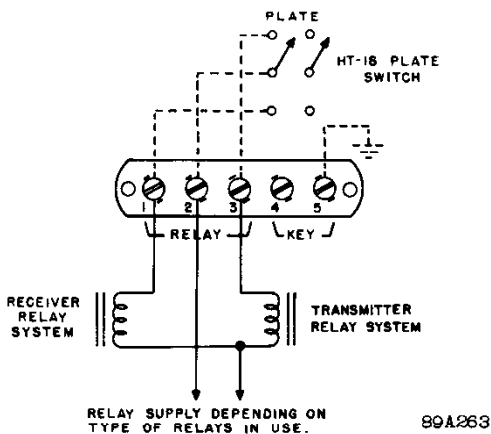

Figure 2. External relay connections
**1. RELAY and KEY TERMINAL STRIP** - For c-w operation, connect a key across terminals 4 and 5 as indicated; for strictly phone operation connect a jumper between terminals 4 and 5. If the transmitter and receiver are relay controlled refer to Fig. 2. for suggestions as to the use of terminals 1, 2, and 3 of this terminal strip. Other uses may be made of the section of the PLATE switch reserved for external switching if relays are not used in the installation.